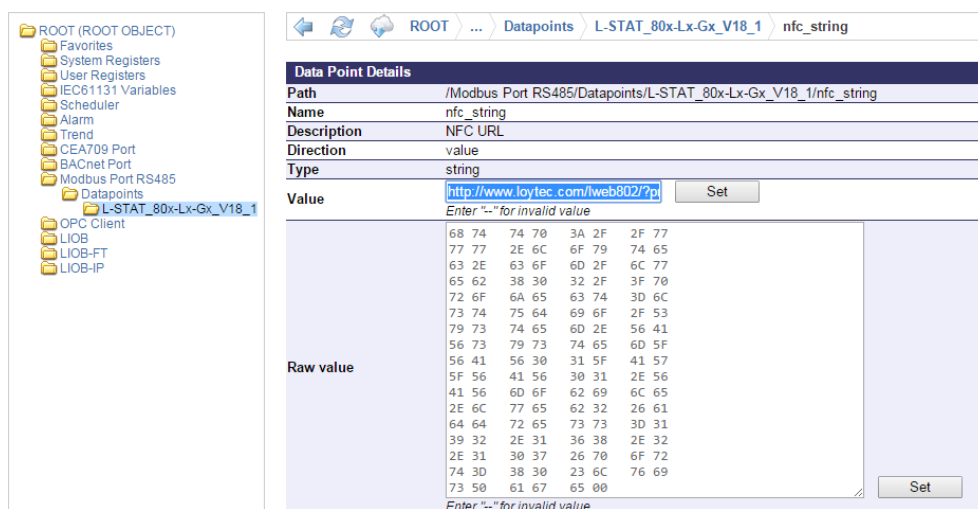

Figure 10: L-STAT NFC String
5. Open the **nfc\_string** datapoint in the web interface of your device and paste the L-WEB project URL at the **Value** field as shown in Figure 10.